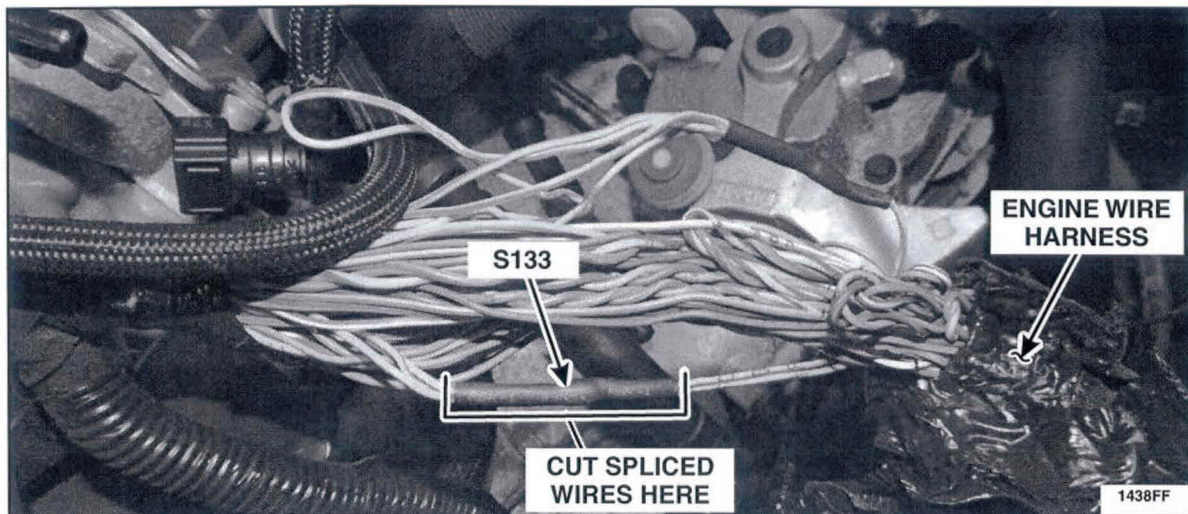

FIGURE 7
11. Cut the wires on each side of the splice S133 and strip off 19 mm (0.75 in) of insulation from each of the Yellow/Violet wires. See Figure 7.